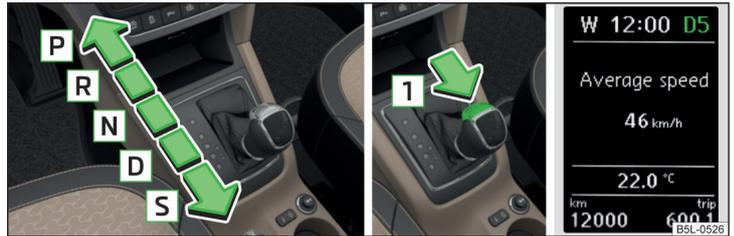

Fig. 130 Selection lever / lock button / display
When the ignition is switched on, the gearbox mode and the currently selected gear are indicated in the display » Fig. 130.
The following modes can be selected with the selector lever » Fig. 130.
Before changing to mode **S** from mode **D**, press the lock button in the direction of arrow **1** » Fig. 130.
➤ Press the brake pedal and the lock button at the same time in the direction of **1** » Fig. 130 on page 138.
The currently selected gear is indicated in the display » Fig. 130 on page 138.
- Press the lock button in the direction of  » Fig. 130 on page 138 and hold.